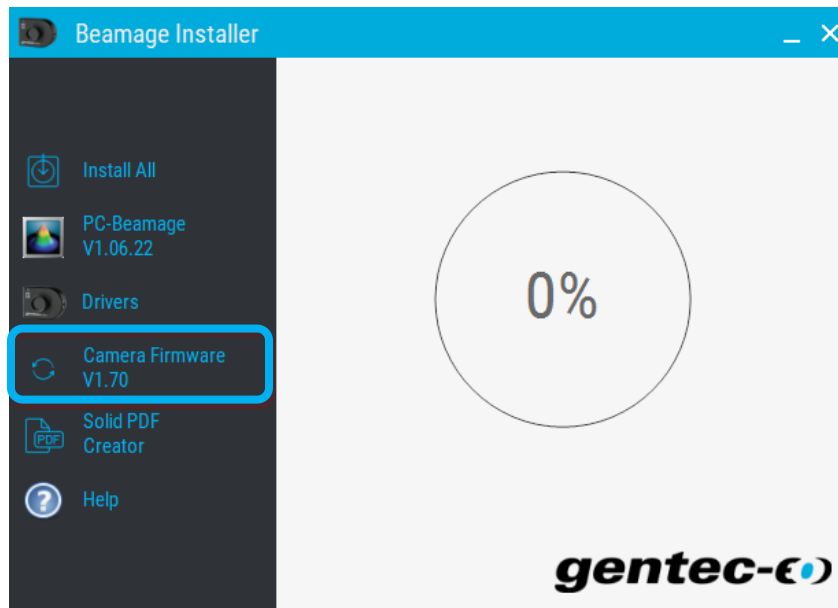

Figure E-1 Camera Firmware Button.
- 4) Click on the “Camera Firmware” button, see Figure E-1.